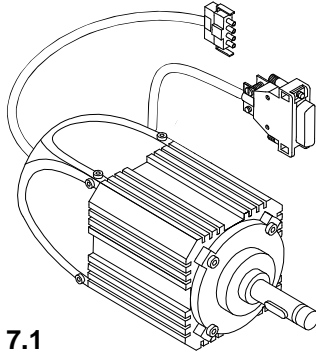

Fig. 7.1
**Motor** QE3760 or QE5540 (**Fig.7.1**) with integrated optoelectronic incremental encoder for commutation and positioning.